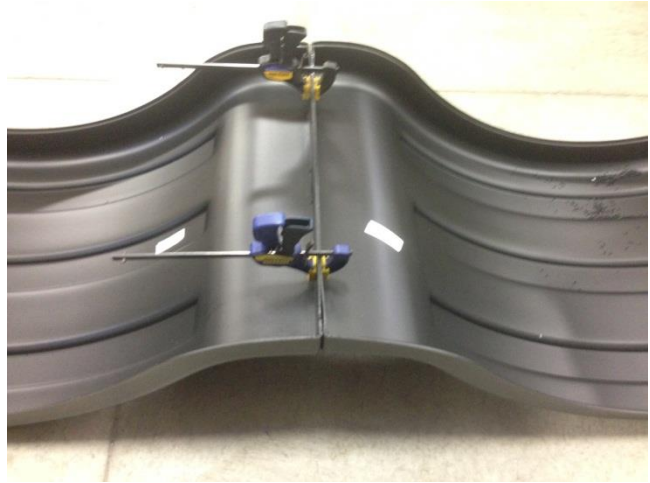

Figure 2
- A. Lay the fenders out and clamp them together (Figure 2). This will make bolting them together much easier.